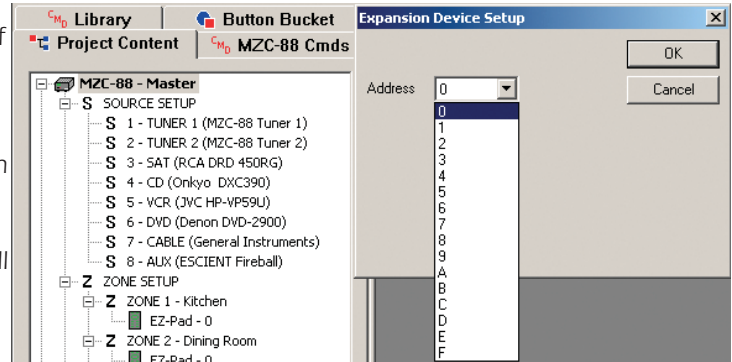

Figure 4
5. Select an Address from the Address pull-down. (Refer to Figure 4) If using only one RSA-1.0 use the default of '0'. If using multiple RSA-1.0s, set each to a different address.